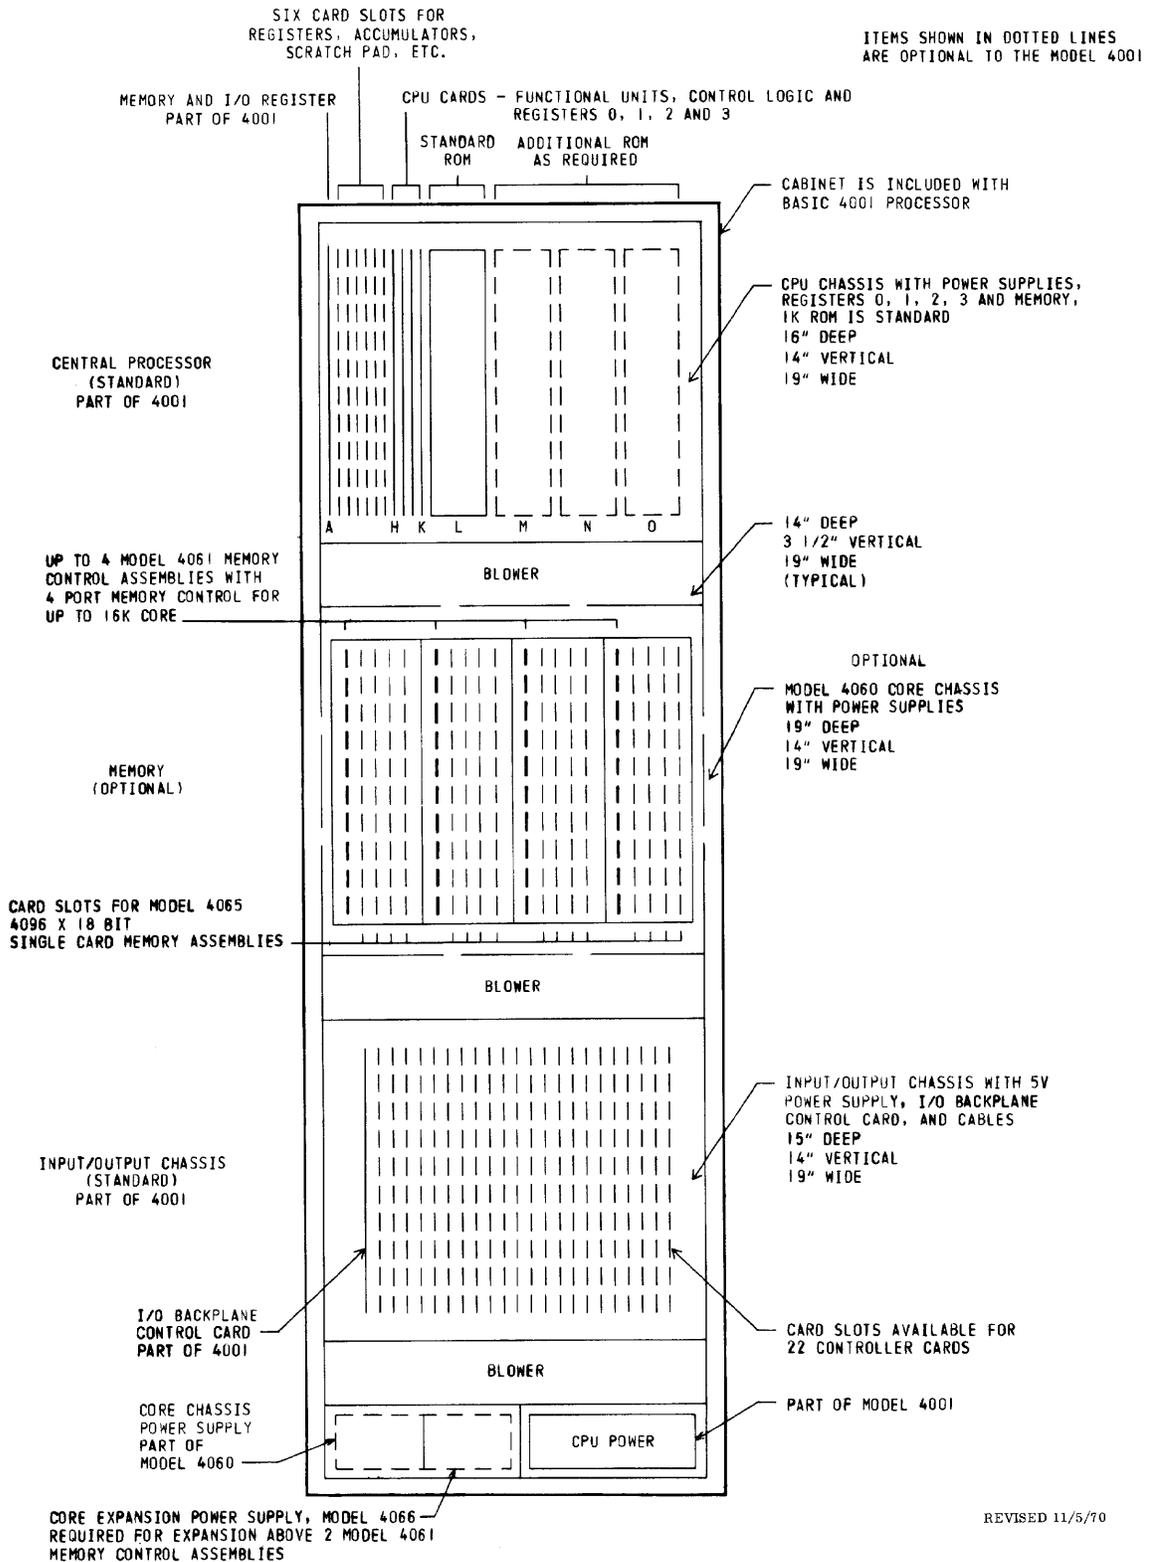

FIGURE 1-5. DIGITAL SCIENTIFIC META 4 COMPUTER SYSTEM ROM BOARD, TYPICAL PATTERN
- The ROM comprises a word drive and bit sense structure which is loaded with firmware contents by sliding in storage boards that have removable adhesive-bonded metallic "bit-patch" patterns, representing bit positions in sequential instructions. A bit patch is binary "1" and the absence of a bit-patch indicates binary "0." See Figure 1-5.